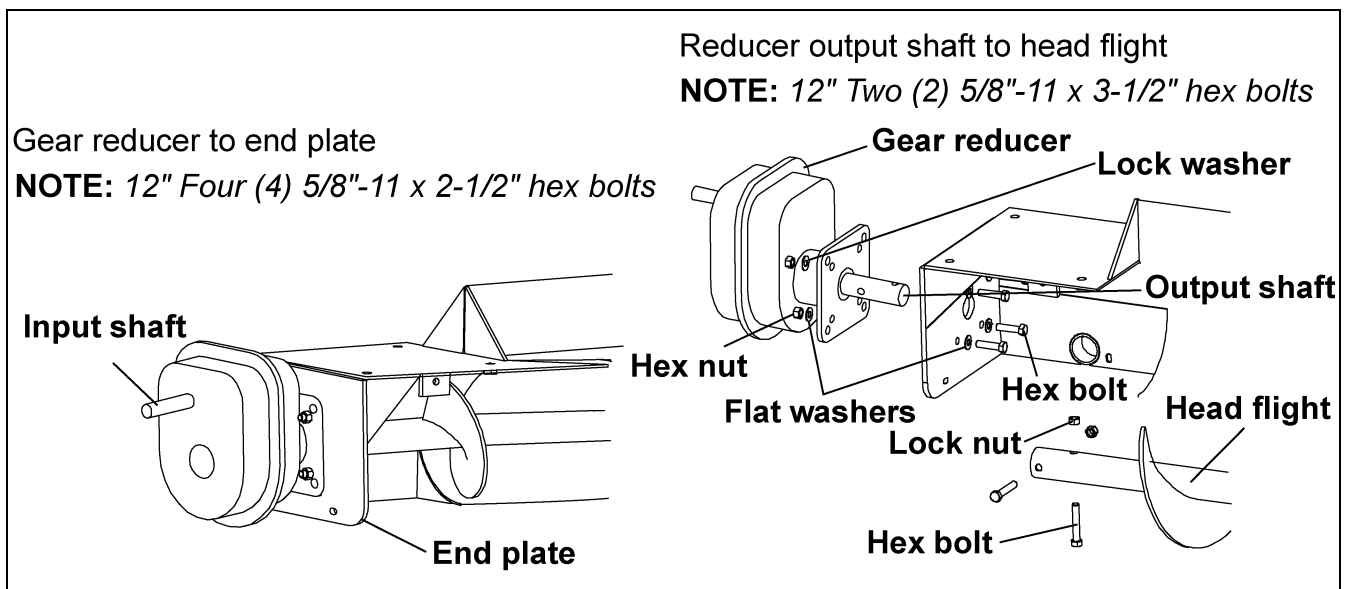

Figure 5G
A. Slide the output shaft of the reducer through the end plate of the head section and into the end of the head flight. Secure the reducer output shaft to the head flight with hex bolts and lock nuts. (See Figure 5G on Page 27.)
B. Bolt the reducer to the end plate of the head section using hex bolts, flat washers and lock washers, supplied with the reducer. (See Figure 5G on Page 27.)